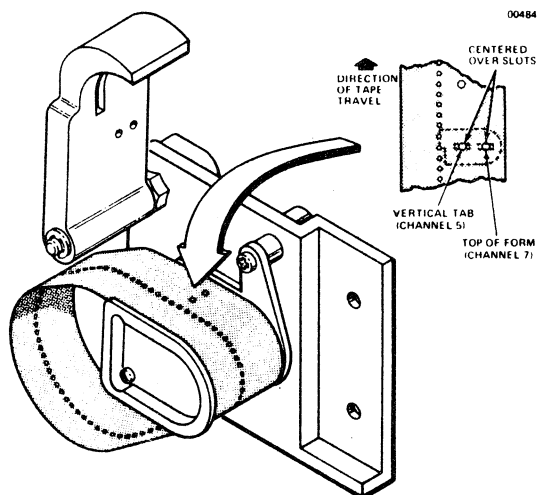

Figure 3-17. PAPER TAPE ADJUSTMENT, VFU
1. VFU Paper Tape Adjustment (Refer to Figure 3-17)